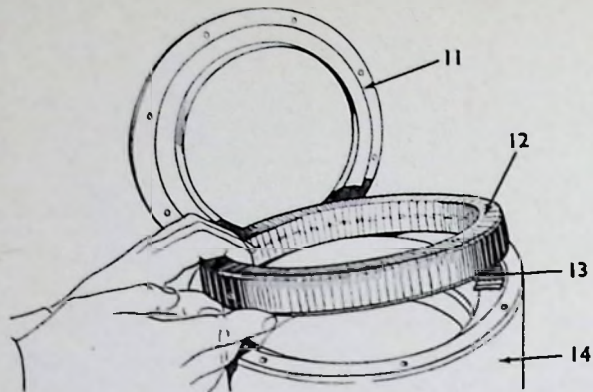

FIG. 75.—Removing coil.
Remove rubber grommet, separate leads from 4BA eyelet and lift out coil (12, Fig. 75) feeding leads inwards through hole in field piece (14).